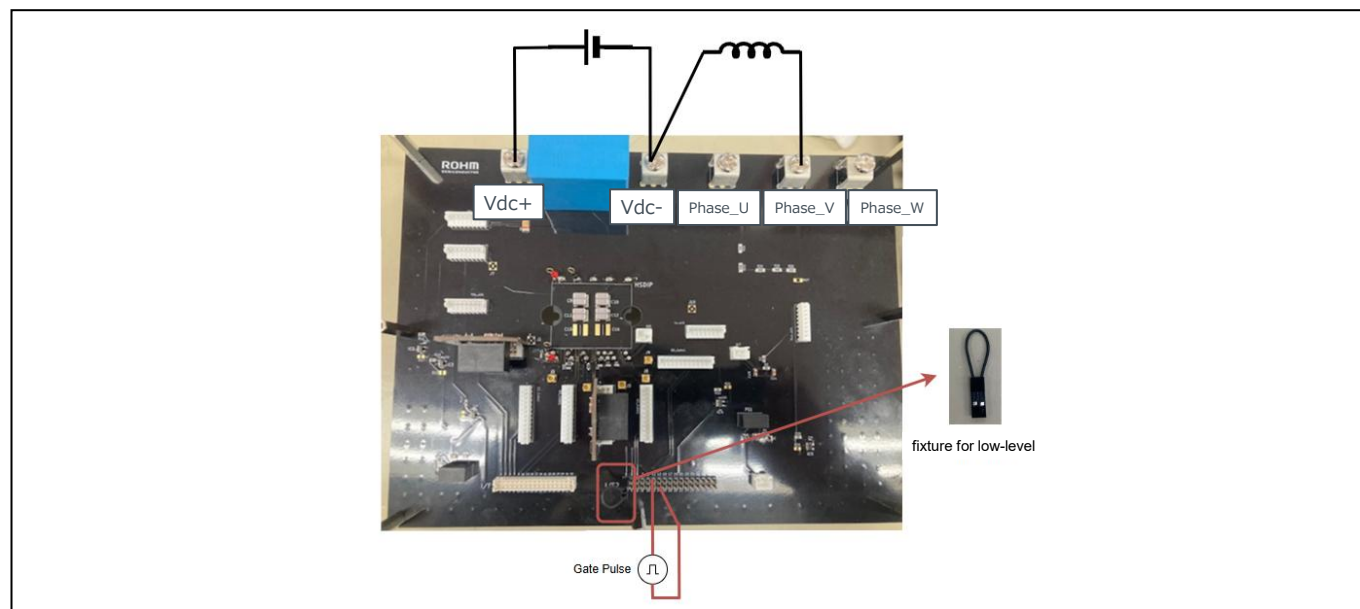

Figure 4-1. Example of main circuit wiring for DPT testing
Step (1): Wire the main circuit part as shown in the examples of Figures 4-1. and 4-2. The screw size of the terminals on the main circuit part is M5.